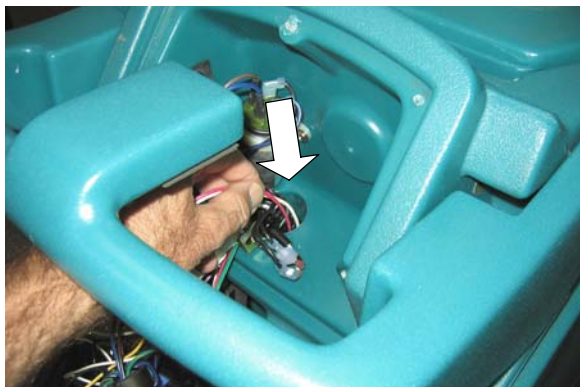

Fig. 4
5. Route new harness (1033619) down to scrub head area, parallel to existing harness (Fig. 4). The end of harness with uneven length wire leads goes towards brush motor. The end of harness with even wire leads goes to new switch. Use wire ties to secure the new harness to the main harness as necessary. Make sure the harness is clear of moving parts to prevent possible damage.